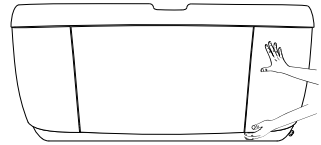

Figure 13.2e
2. You must first remove the corner panels in order to remove the center panel, Figure 13.2e.